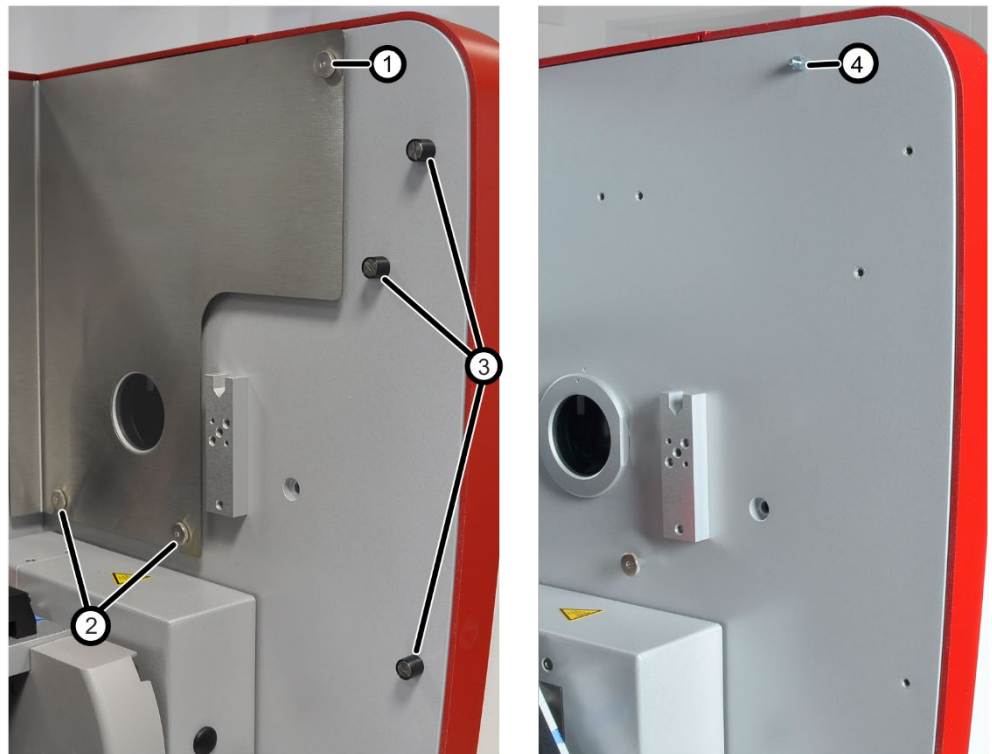

Figure 11 Preparing the contrAA 800 D for installing the SSA 600
1. Remove the two top mounting screws on the left and right side of the heat guard (1 in Figure 11).
2. Release the 4 knurled head screws at the bottom left and right of the guard (2 in Figure 11).
4. At the right sample chamber wall: Unscrew the 3 black bolts (3 in Figure 11).
6. Remove the 2 hexagonal bolts (4 in Figure 11) on both sides of the sample chamber.